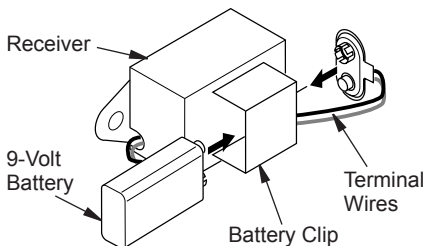

Figure 20 - Attaching Battery to Receiver
2. Locate battery clip mounted on back of receiver (see Figure 20).
4. Attach terminal wires to battery (see Figure 20).